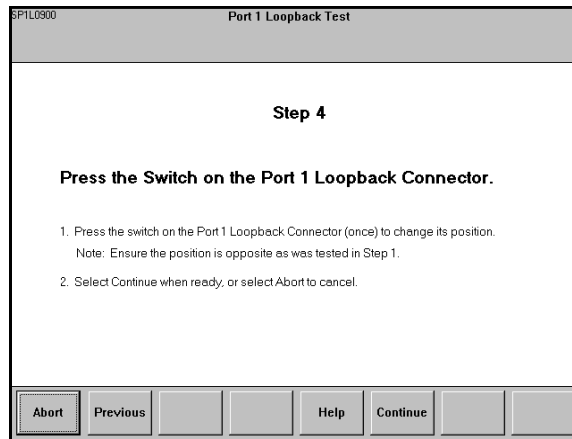

Figure 7
4. Press the "Continue" option to proceed to Step 4 (Figure 7). The screen shown here instructs the operator to: